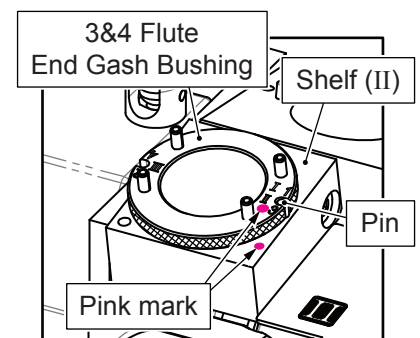

Fig. 5-16
2) End Gash Grinding Shelf (II) (Fig. 5-16)